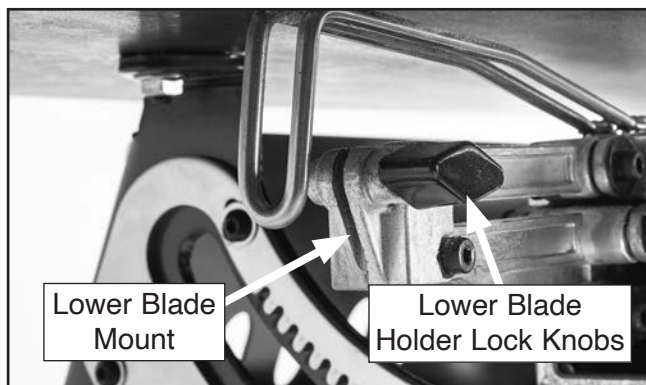

Figure 20. Lower blade mounts.
7. Place lower portion of blade in lower blade mount (see **Figure 20**).